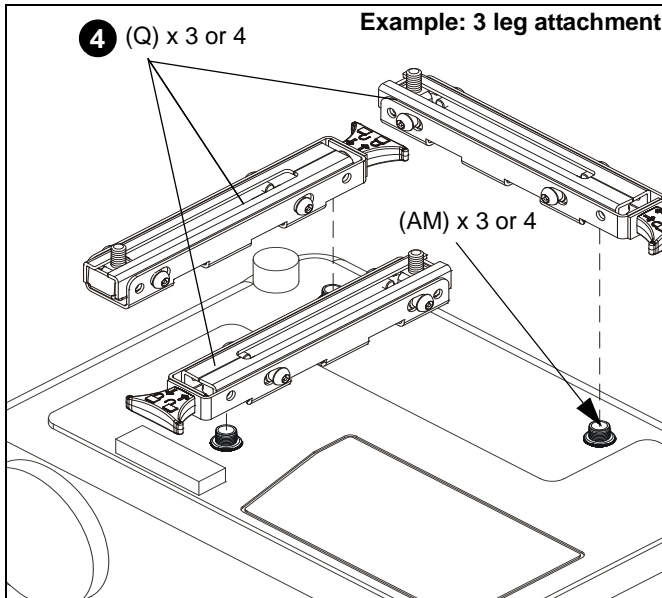

Figure 4
- Place interface legs (Q) over screw adapters (AM). (See Figure 4)